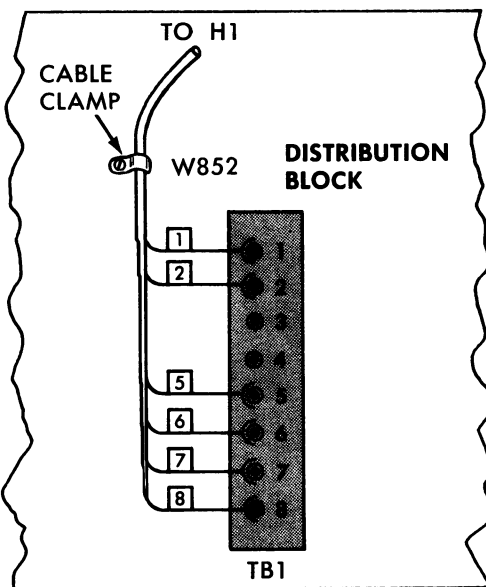

Figure 3A
3. Connect the control cable (routed from the turret through H1 in the desk top) to the terminal board(s) as shown in Figure 3A (single-station control) or 3B (dual-station control). Mount cable clamp as shown using the #6 x 5/8" threadforming screw provided.